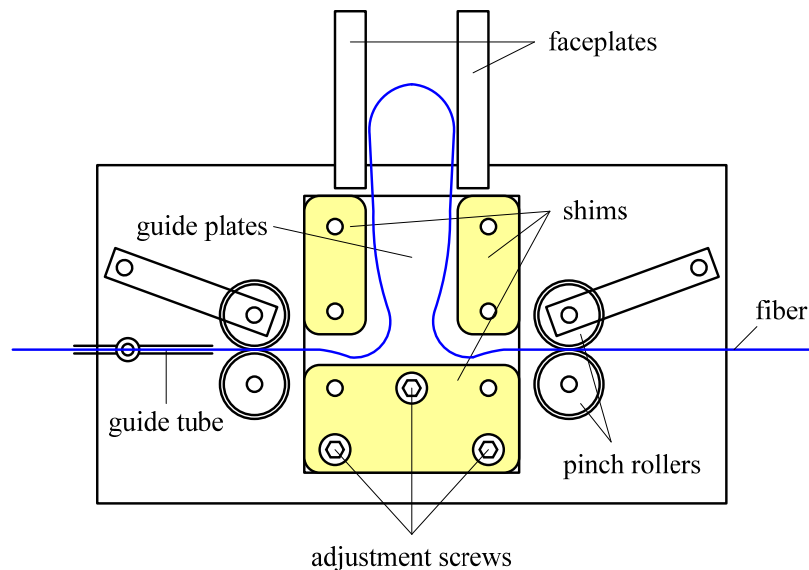

Figure 3: Key components of the loader.
1. Open the faceplates to a gap of 20 mm. Align the loader so that the ends of the faceplates are 1 to 2 mm from the guide plates and the inside faces of the faceplates line up with the inside edges of the two smaller shims, as shown in Figure 3. There should be enough play in the mounting holes of the loader base plate to achieve this alignment.
2. Insert a piece of fiber from the left through the guide tube, between the first pair of pinch rollers, between the two guide plates and out between the second pair of pinch rollers. Now rotate the left-hand pinch rollers to feed more fiber into the gap between the guide plates so that the fiber buckles and feeds a loop of fiber between the faceplates, as shown in Figure 3.